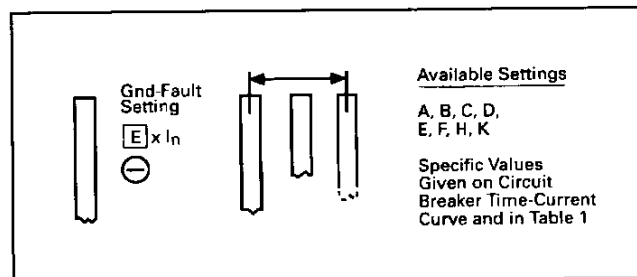

Fig. 8.6 Ground Fault Current Settings
The eight (8) Ground Fault "Pick-up" Current settings are labeled with the code letters "A" through "K" (except there are no "G" or "I" settings), as illustrated in Fig. 8.6. In general, the specific current settings range from 0.25 to 1.0 times (I_R), the rating plug value, but cannot exceed 1200 A. The specific Ground Current Settings for each letter are listed in Table 4 and on the (G) Time-Current Curve applicable for the circuit breaker (see Section 5).